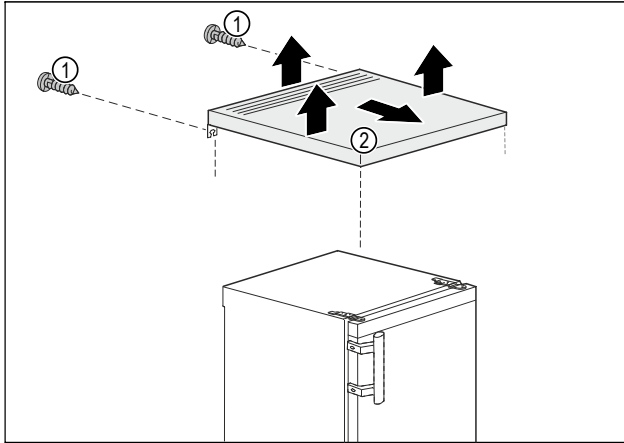

Fig. 3
- ▶ Remove the screws Fig. 3 (1) on the rear end.
- ▶ Raise the table top Fig. 3 (2) at the back.
- ▶ Push the table top Fig. 3 (2) forwards.
- ▶ Remove the table top Fig. 3 (2) upwards.
- ▶ The table top Fig. 3 (2) has been removed.